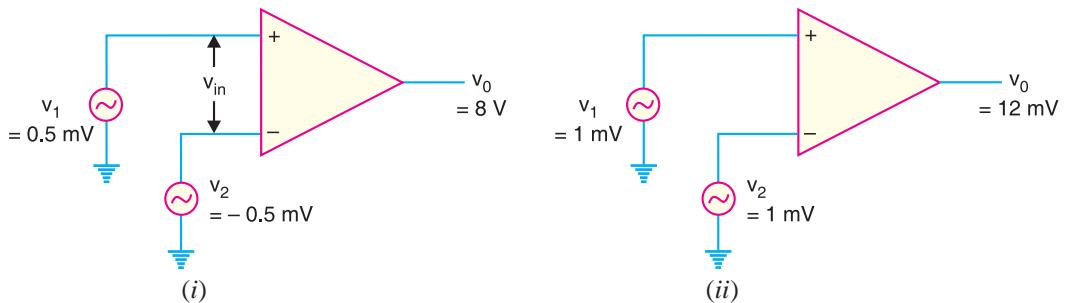

Fig. 25.36
**Example 25.17.** Calculate the CMRR for the circuit measurements shown in Fig. 25.36.
**Solution.** Fig. 25.36(i) shows the differential-mode operation whereas Fig. 25.36(ii) shows the common-mode operation. Referring to Fig. 25.36(i),  $v_{in} = 0.5 - (-0.5) = 1 \text{ mV}$ .
Referring to Fig. 25.36(ii),  $*v_{in(CM)} = 1 \text{ mV}$